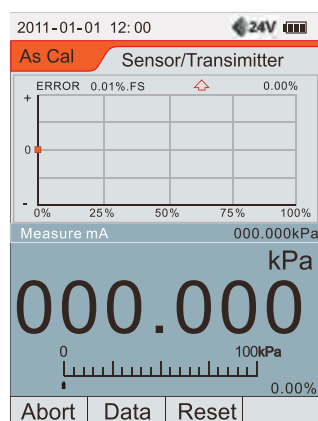

Figure 9.32 Curve display
4. Use **+** or **-** key to select the sensor/transmitter options, press **F4** or **Enter/hold** key to enter As Cal execution interface, as shown in Figure 9.32.